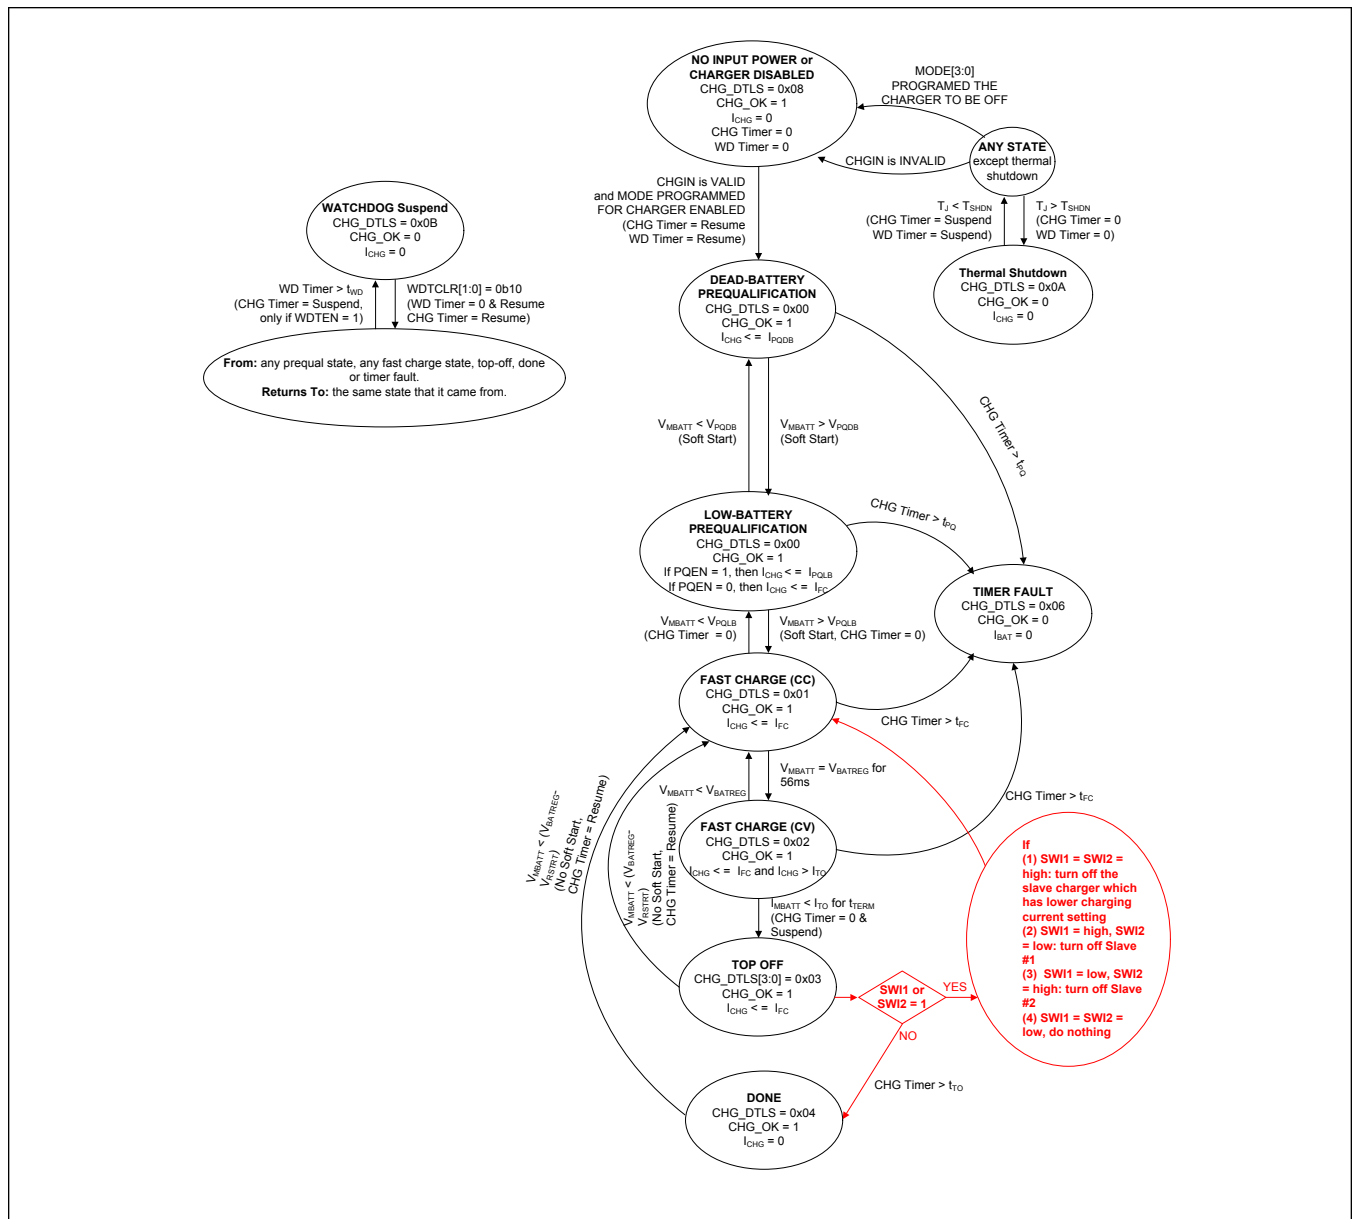
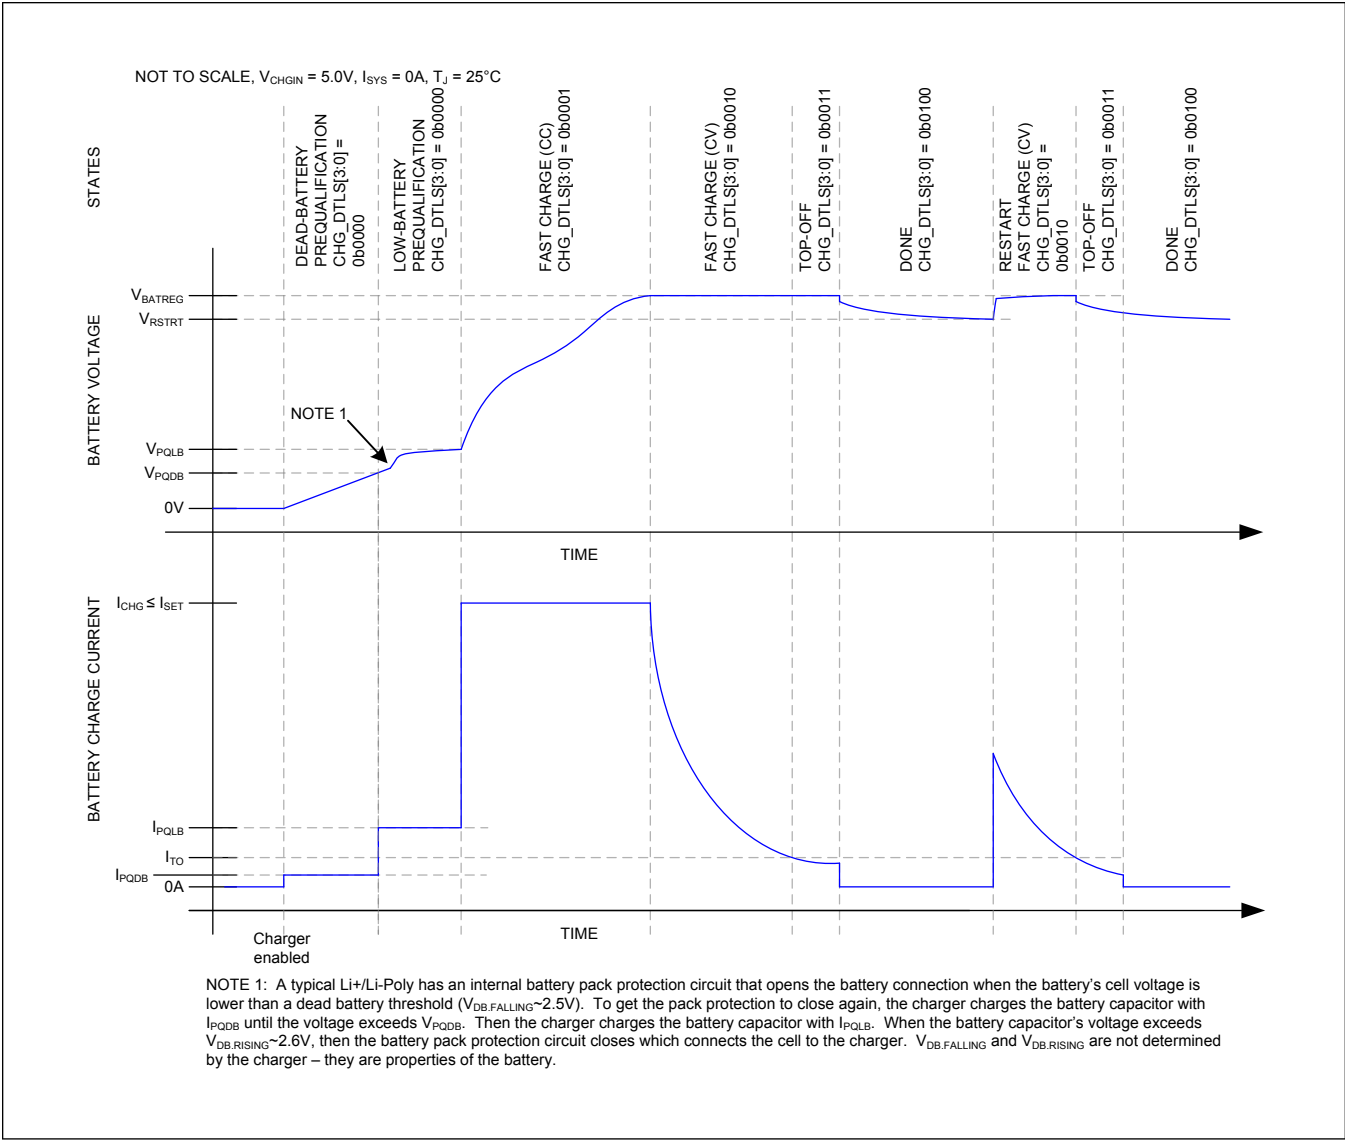
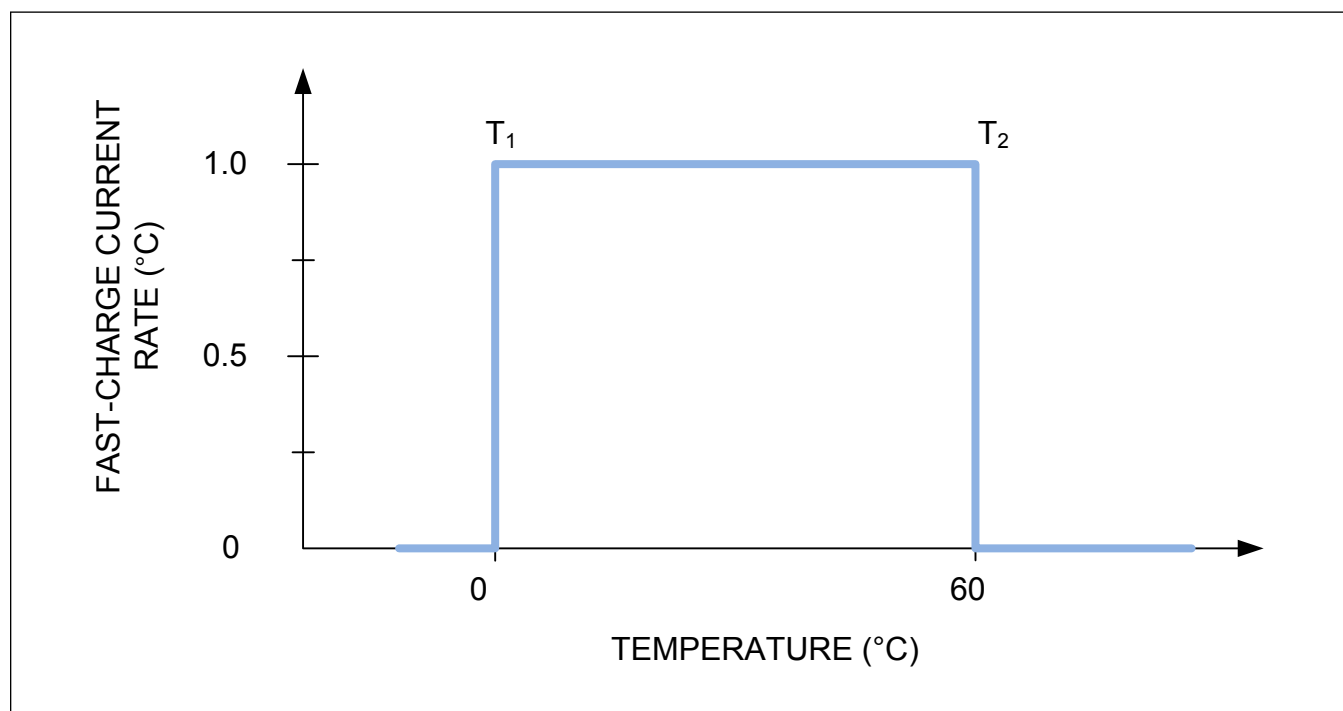

Figure 3. Charger State Diagram
Figure 4. Li+/Li-Poly Charge Profile
Figure 10. Thermal Shutdown Regions
DETBATB is tied to the ID pin of the battery pack. If DETBATB is pulled below 80% of V_{IO} pin voltage, this is an indication that the main battery is present and the battery charger starts upon valid CHGIN. If DETBATB is left unconnected or equal to V_{IO} voltage, this indicates that the battery is not present and the charger does not start upon valid CHGIN, see Figure 4. DETBATB is internally pulled to BATT through an external resistor. The DETBATB status bit is valid when BATT is not present.
The IC utilizes several charging states to safely and quickly charge batteries as shown in Figure 3. An exaggerated view of a Li+/Li-Poly battery is shown in Figure 4 when there is no system load and the die and battery are close to room temperature as it progresses through the following charge states:
As shown in Figure 3, the dead-battery prequalification state occurs when the main-battery voltage is less than V_{PQDB} . After being in this state for t_{SCIDG} , a CHG_I interrupt is generated, CHG_OK is set, and CHG_DTLS is set to 0x00. In the dead-battery prequalification state, charge current into the battery is I_{PQDB} .
As shown in Figure 3, the fast-charge constant current (CC) state occurs when the main-battery voltage is greater than the low-battery prequalification threshold and less than the battery regulation threshold ($V_{PQLB} < V_{BATT} < V_{BATREG}$). After being in the fast-charge CC state for t_{SCIDG} , a CHG_I interrupt is generated, CHG_OK is set, and CHG_DTLS = 0x01.
As shown in Figure 3, the topoff state can only be entered from the fast-charge CV state when the charger current decreases below I_{TO} for t_{TERM} . After being in the topoff state for t_{SCIDG} , a CHG_I interrupt is generated, CHG_OK is set, and CHG_DTLS = 0x03. In the topoff state, the battery charger tries to maintain V_{BATREG} across the battery and typically the charge current is less than or equal to I_{TO} .
As shown in Figure 3, the battery charger enters its done state after the charger has been in the toff state for t_{TO} . After being in this state for t_{SCIDG} , a CHG_I interrupt is generated, CHG_OK is cleared, and CHG_DTLS = 0x04.
The battery charger provides both a charge timer and a watchdog timer to ensure safe charging. As shown in Figure 3, the charge timer prevents the battery from charging indefinitely. The time that the charger is allowed to remain in each of its prequalification states is t_{PQ} . The time that the charger is allowed to remain in the fast-charge CC and CV states is t_{FC} , which is programmable with FCHGTIME. Finally, the time that the charger is in the toff state is t_{TO} , which is programmable with TO_TIME. Upon entering the timer fault state, a CHG_I interrupt is generated without a delay, CHG_OK is cleared, and CHG_DTLS = 0x06.
In the timer fault state, the charger is off. The charger can exit the timer fault state by programming the charger to be off and then programming it to be on again through the MODE bits. Alternatively, the charger input can be removed and reinserted to exit the timer fault state (see the "ANY STATE" bubble in the upper right of Figure 3).
The battery charger provides both a charge timer and a watchdog timer to ensure safe charging. As shown in Figure 3, the watchdog timer protects the battery from charging indefinitely in the event that the host hangs or otherwise cannot communicate correctly. The watchdog timer is disabled by default with $WDTEN = 0$. To use the watchdog timer feature, enable the feature by setting $WDTEN$. While enabled, the system controller must reset the watchdog timer within the timer period (t_{WD}) for the charger to operate normally. Reset the watchdog timer by programming $WDTCLR = 0x01$.
In the IC, the thermistor is monitored to turn off the charger during battery temperature fault events. The battery regulation voltage and current limits are not adjusted. As shown in Figure 3, the thermal shutdown state occurs when the battery charger is in any state and the junction temperature (T_J) is higher than the device's thermal shutdown threshold (T_{SHDN}) or below 0°C . When T_J is close to T_{SHDN} , the charger folds back the input current limit to 0A so the charger and inputs are effectively off as shown in Figure 10. Upon entering this state, CHG_I interrupt is generated without a delay, CHG_OK is cleared, and CHG_DTLS = 0x0A.